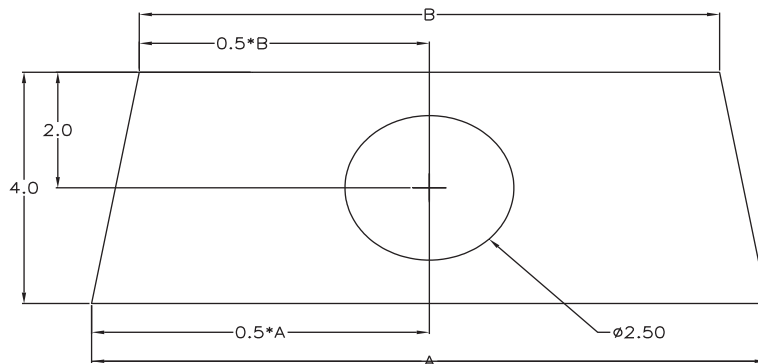

Figure B-21 Example Magnetometer Shelf
3. Measure the fuselage in multiple locations to find the size of the shelf. The shelf will have an approximate trapezoidal shape and should have a depth of at least 4.0 in. Cut the shelf from 0.25 in. thick, 2-ply per side prepreg. Cut a 2.50 in. diameter hole in the center of the shelf, as shown in Figure B-21. Alternately, the 2.50 in. diameter hole can move left or right on the shelf, so long as there is adequate clearance to install or remove the magnetometer. By placing the hole in the center of the shelf, the elevator control tube can be used more effectively in a later step to align the GMU 22 Installation Rack with the aircraft's forward direction. Prepare for shelf installation by sanding, roughing up, and cleaning all bonding areas on the shelf and fuselage for best adhesion.